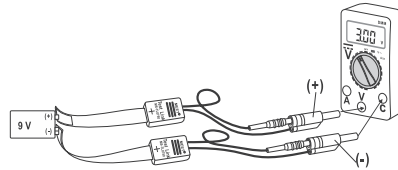
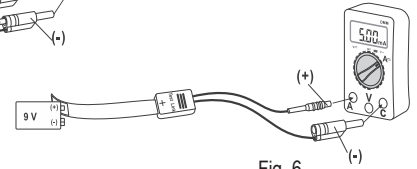

Fig.5
Fig. 6
To measure the voltage (fig. 5) and current (fig. 6) on a block battery connected to the load, follow the steps below.
- To measure the voltage, connect the two measuring adapters to a compatible multimeter, as shown in figure 5.
- To measure the current, connect a measuring adapter to a second compatible multimeter, as shown in figure 6.